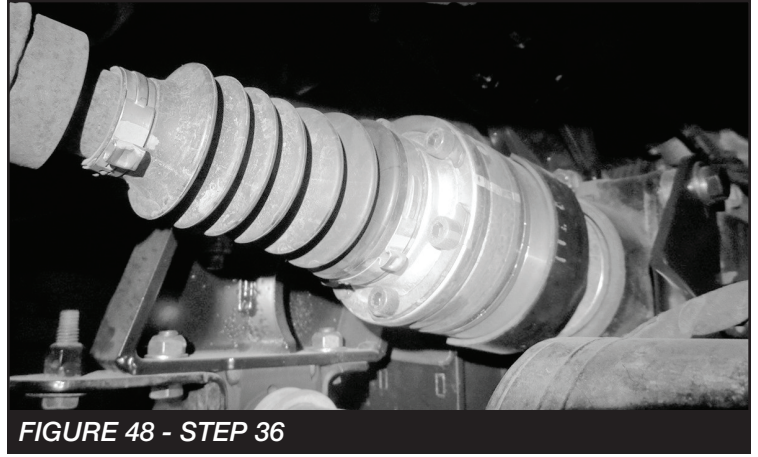

FIGURE 48 - STEP 36
36. When reinstalling the front driveshaft. Install the front (Pinion side) with FT30900 (Spacer Pinion Side (1" Spacer)) and M8x 90mm bolts. Torque to 27 ft-lbs. **SEE FIGURE 48**